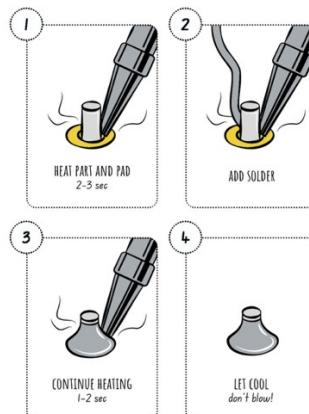

Figure 2 – Steps for a good solder; Source – Circuitmess.com
To solder, turn on the iron to the desired temperature. Most lead-free solder requires temperatures of 650 to 750 degrees Fahrenheit. Once the iron reaches the required heat, place the tip of the iron on the pad. Then, hold the solder to the pad. The heat from the pad should melt the solder and help it fuse the lead of the component to the pad on the PCB. To make sure the joint is secure, make sure the solder fuses both the pad and lead together. In many cases, if the pad isn't heated enough, the solder won't create a strong connection. Refer to figure 2 for a visual description of creating a good solder joint.
1. Place the resistors on a proto board. To ensure that other lab sections can use the same proto boards, make sure to keep your circuits to within one red box in figure 2.